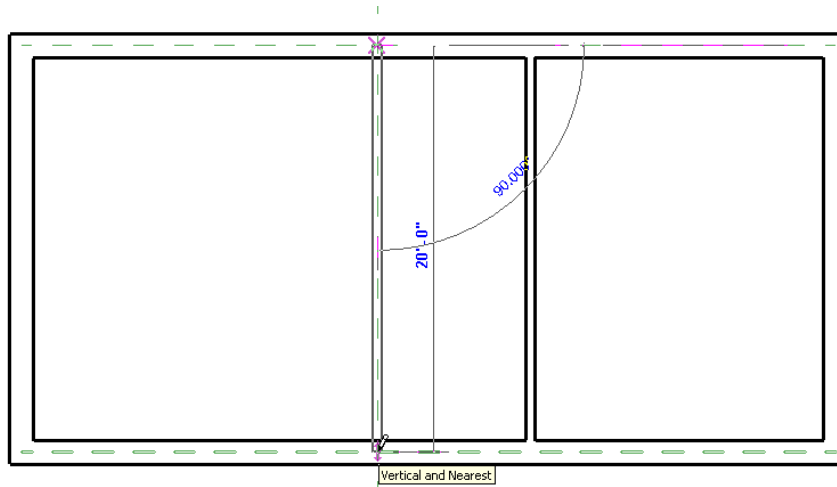

Figure 2-51 Sketching the second interior wall
2. Press the SHIFT key on the keyboard and move the cursor downward. The cursor moves parallel to the vertical axis. Click near the lower external wall, when the **Vertical and Nearest** symbol appears, as shown in Figure 2-51.